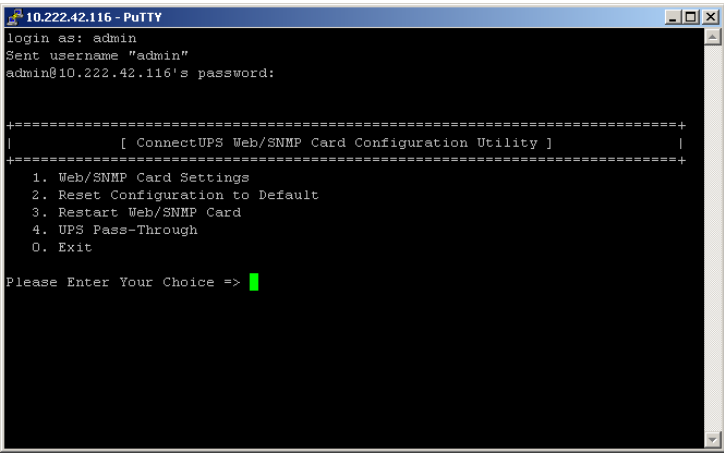

Figure 32. ConnectUPS Web/SNMP Card Menu Window
8. Press Enter. The ConnectUPS Web/SNMP Card menu window opens (see Figure 32).